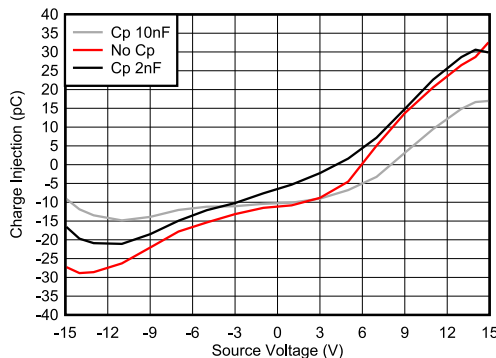

图 8-3. Charge Injection Compensation
The TMUX6219 contains specialized architecture to reduce charge injection on the source (Sx). To further reduce charge injection in a sensitive application, a compensation capacitor (Cp) can be added on the drain (D). This will ensure that excess charge from the switch transition will be pushed into the compensation capacitor on the drain (D) instead of the source (Sx). As a general rule of thumb, Cp should be 20× larger than the equivalent load capacitance on the source (Sx). 图 8-3 shows charge injection variation with source voltage with different compensation capacitors on the Drain side.